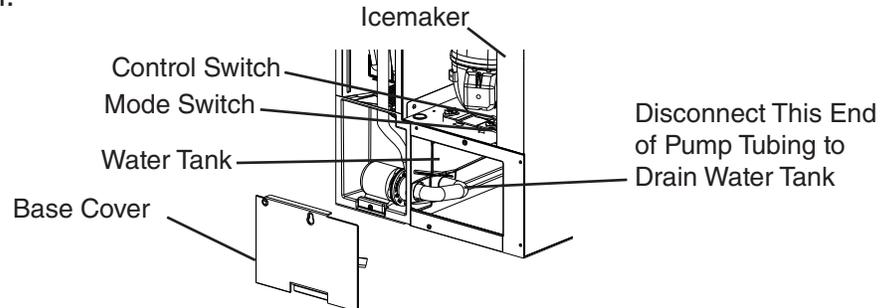

Fig. 17
2a)(1) For **KM-322_522_622MAK** - Remove the front insulation panel, then disconnect the water tank pump tubing located behind the base cover. See Fig. 17. Allow the water tank to drain.